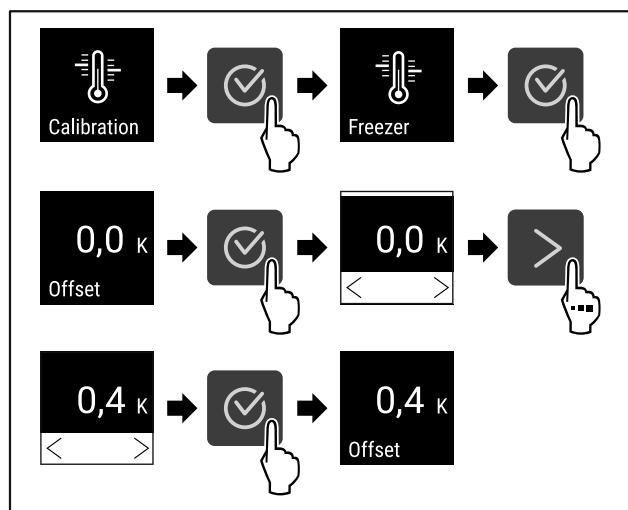

Fig. 95
- Complete steps (see Fig. 95) .